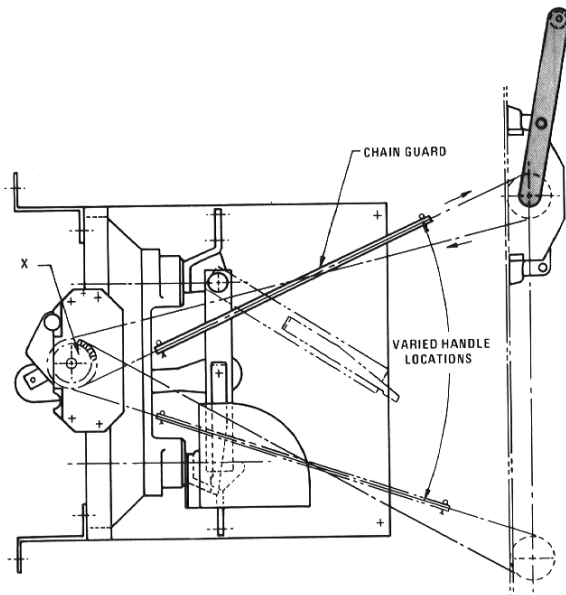

Fig. 9 Handle "UP" in switch closed position.
The component parts for this type installation are shown in Fig. 9. The switch and frame are mounted vertically in the enclosure. The arc chute interrupters are situated **below** the blade hinge. The switch is chain driven with the handle located on the left front corner of the enclosure. Normally, the handle is in the "UP" position with switch closed.
- a. Assemble the chain drive sprocket kit (Mk 302, Dwg. 316-557, sprocket, washer and retaining ring) on the stored-energy device of the switch, at the left as shown at (X) in Fig. 9.
- b. Mount the frame-mounted switch (Fig. 9) in the enclosure.
- e. With switch closed and handle in corresponding up position, assemble chain from drive handle sprocket to switch stored-energy device sprocket, **criss-crossing** the chain and adding the **chain guard** as shown in Fig. 9.